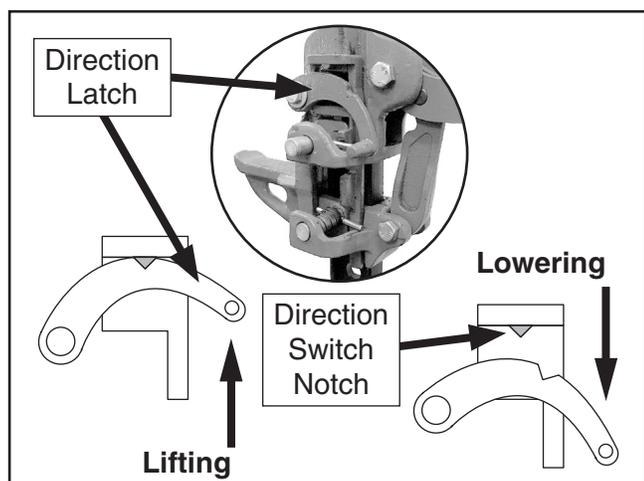

Figure 2. Direction latch in the lifting and lowering positions.
4. Raise the direction latch so that the indent is firmly engaged with the notch on the direction switch (see **Figure 2**).